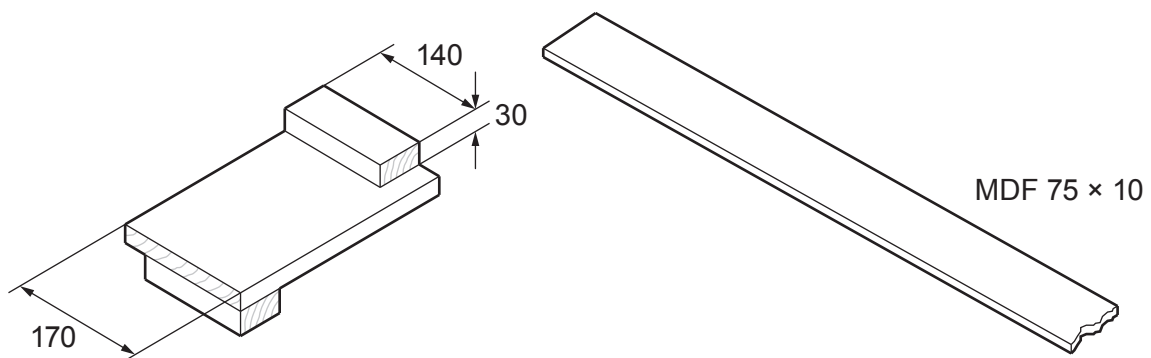

Fig. 12.3
- (d) Fig. 12.3 shows details of a bench hook and a length of MDF from which the dominoes will be sawn. Each domino is 150 mm long.